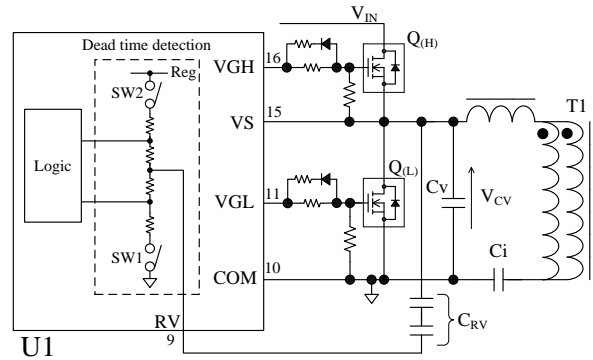

Figure 8-19. RV Pin Peripheral Circuit and Dead Time Detection Circuit
Figure 8-19 shows the RV pin peripheral circuit and the internal dead time detection circuit. The external components for this function is only high-voltage ceramic capacitor, C_{RV} , connected between the VS pin and the RV pin. The value of C_{RV} is about 5 pF.
After $Q_{(L)}$ turns off, SW2 is turned on while SW1 is kept on state. The resonant current flows through C_V , C_i and T1 (refer to Figure 8-19) and the C_V voltage, V_{CV} , increases from 0 V. When V_{CV} becomes Equation (11), the resonant current flows through the body diode of $Q_{(H)}$ and V_{CV} is clamped $V_{IN} + V_{F(H)}$. The period that until V_{CV} is clamped after V_{CV} starts to increase is defined as the voltage resonant period.
• **Q_(H) Turns Off**
After Q_(H) turns off, SW1 is turned on while SW2 is kept on state. The resonant current flows through C_V, C_i and T1 (refer to Figure 8-19) and the C_V voltage, V_{CV}, decrease from the input voltage, V_{IN}. When V_{CV} becomes Equation (12), the resonant current flows through the body diode of Q_(L) and V_{CV} is clamped - V_{FL}. The period that until V_{CV} is clamped after V_{CV} starts to decrease is defined as the voltage resonant period.